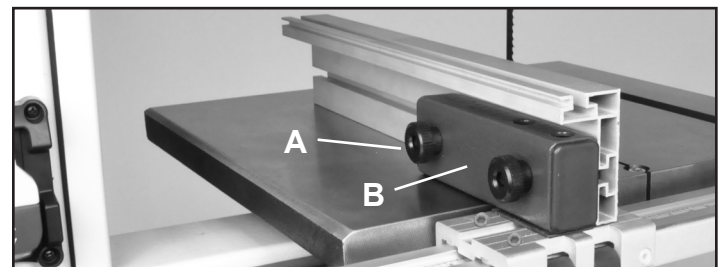

FIGURE 31
1. Loosen the two side Knobs (#110, FIG. 31, A) which hold the Fence (#106) against the Fence Carrier (#107, B).
1. Loosen the two side Knobs (#110, FIG. 31, A) which hold the Fence against the Fence Carrier (#107, B).